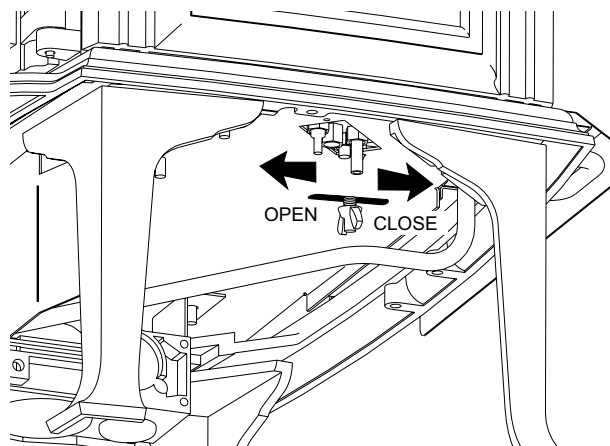

Figure 26. Air Shutter adjustment
17. Adjust the Air Shutter: Replace the gasket disk and fender washer on the shutter stem. See fig. 26. Pushing the shutter stem back will restrict air to the burner. Pulling the shutter forward will increase air. Set the stem at the half-way point in its adjustment travel. You will need to experiment to find the best setting for your particular installation. The shutter is set at the halfway position at the factory.
1. Locate and loosen the adjustment stem wing nut protruding from the bottom of the firebox, directly behind the gas valve. See fig. 26.